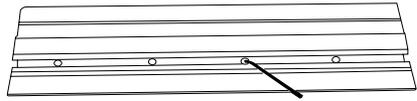

Fig. 9
2. Using the supplied hexagon key to loosen the 4 screws in the joining bar, Slide the cavities over the joining bar that is protruding from track section (Fig.9, Fig.10).